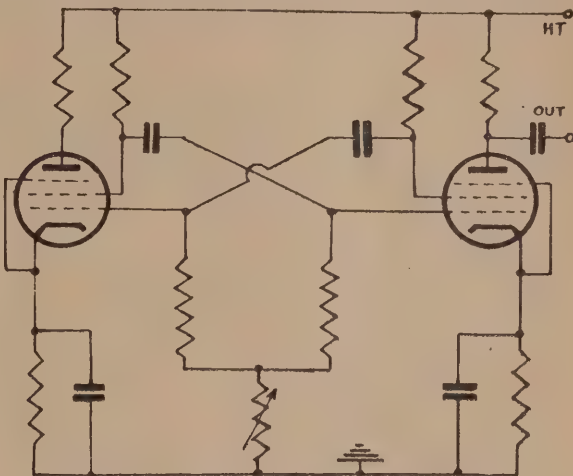

Fig. 5.
Space does not permit a detailed discussion on this subject, and readers can easily prepare any desired curve for themselves by the use of squared paper, the sine tables and a little patience, remembering that the natural amplitude of any harmonic is proportional to its order as shown at (a), so that due allowance can be made for any specially stressed harmonic orders. This was exemplified in Fig. 5 of our September article and may be referred to. It will suffice here if we point out certain facts that emerge from a study of the curves in Fig. 1 as follows:—(1) Waveforms due to harmonics in phase with the fundamental are symmetrical in the two half-
The value of spectrum diagrams as an aid to circuit design was touched upon in our September, 1947, issue (Figs. 5 and 6) in that the constructor obtained evidence of the order and amplitude of the harmonic content. At the same time it was pointed out that strict adherence was not of major importance as such data varied from instrument to instrument of the same type on account of structural differences. A "family resemblance" is all that is required in the initial stages as the final quality will be judged by ear.
The multivibrator principle may be used for the generation of square waves by employing pentode valves as shown in Fig. 5. The circuit is particularly useful for the operation of relays or magnetic rotary switches because of the rapid make/break action and the pro-